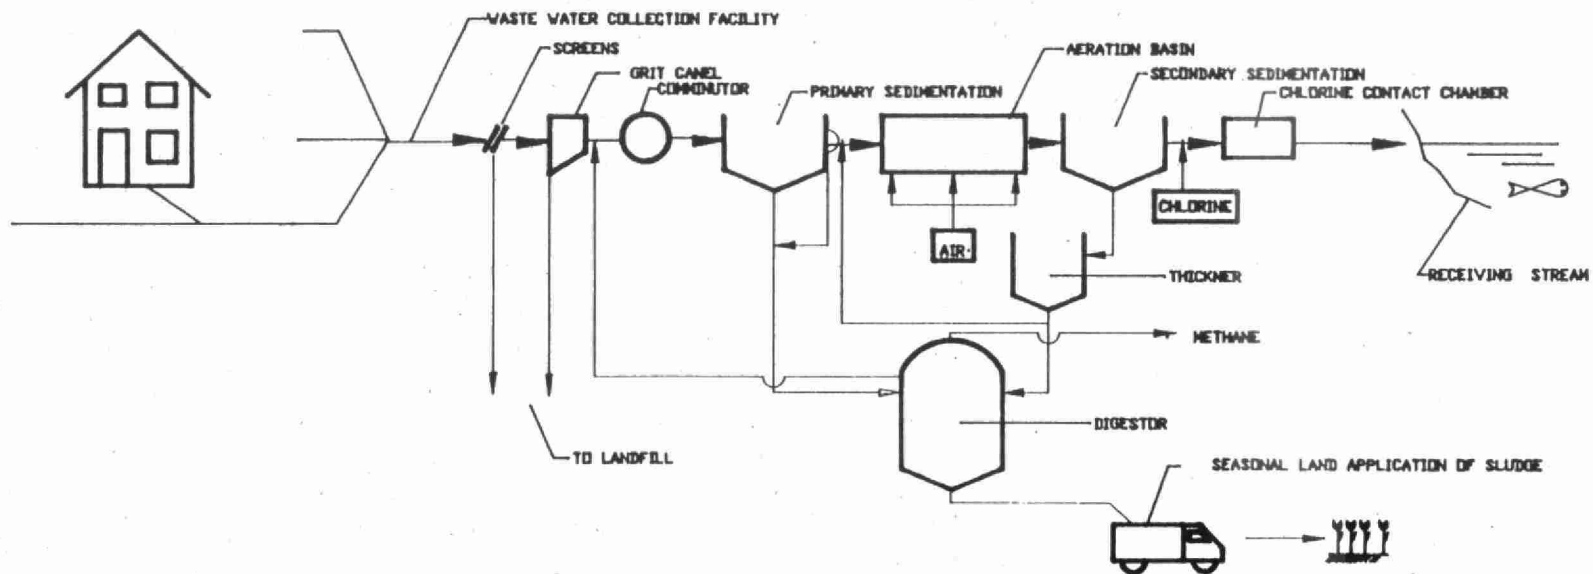

FIGURE 2: SIMPLIFIED SCHEMATIC OF A TYPICAL WASTEWATER TREATMENT FACILITY
Sewage contains many contaminants which must be removed or reduced before it can be returned to the natural environment. These contaminants include solids, BOD (a term to describe the amount of oxygen required by microorganisms to stabilize the matter), nutrients such as nitrogen (N) and phosphorous (P) which promote algae growth, pathogenic microorganisms and harmful chemicals. The process described below is typical of those found in wastewater treatment facilities in Ontario and is illustrated in Figure 2. The treatment processes are commonly divided into four steps: **preliminary, primary, secondary and tertiary treatment.**